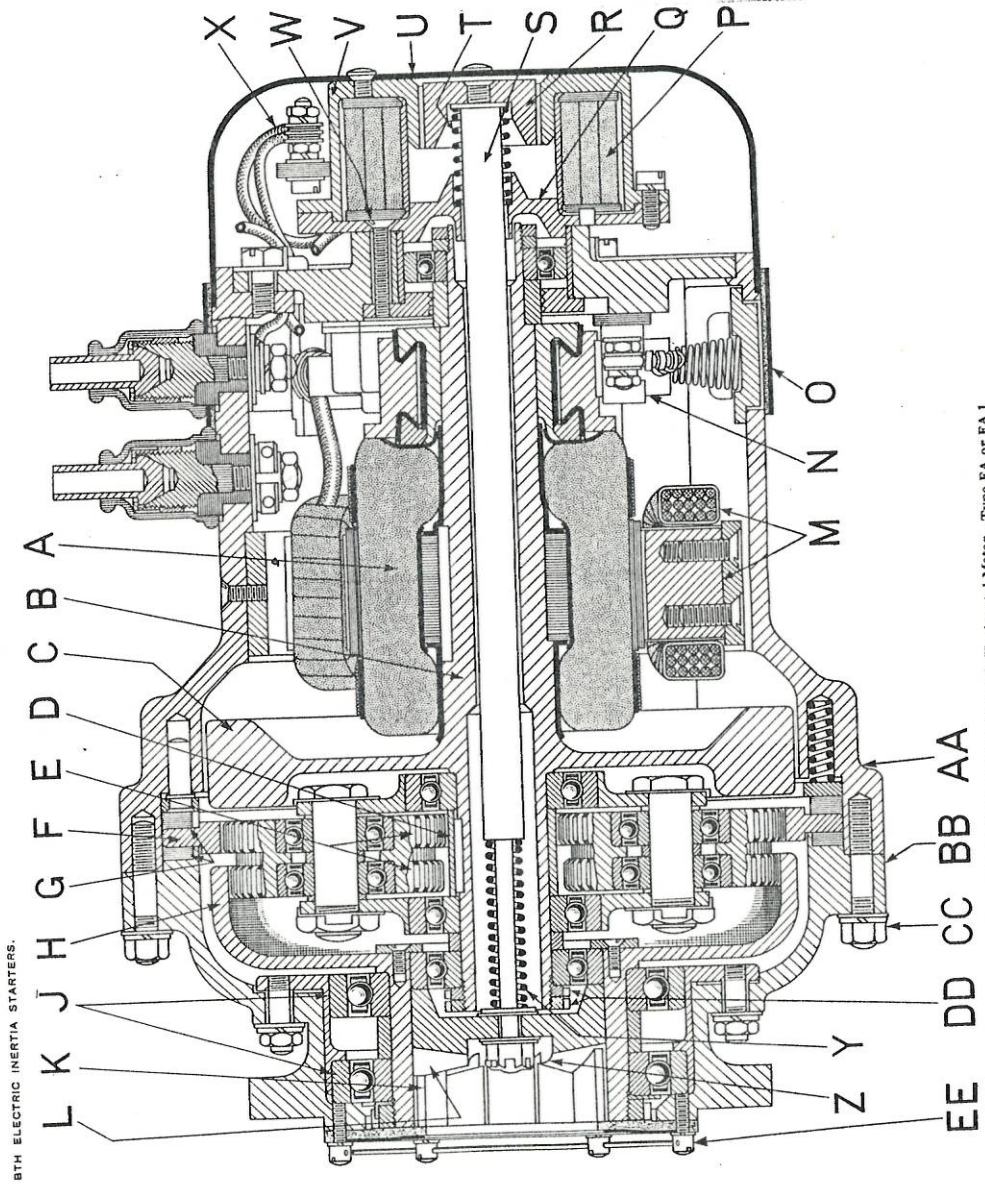

Fig. 1. Section through Electric Inertia Starter with Horizontal Motor—Type FA or FA 1
The construction of these starters is shown in Fig. 1. The armature A of the D.C. series motor is built up on a hollow shaft B which is integral with the flywheel C. Keyed to the shaft is a sun pinion D which engages with a double planetary gear
For FA and FB starters the solenoid switch knob is then pulled out, energizing the solenoid P, Fig. 1, causing the pole-piece Q to attract the plunger R. The operating rod S thus moves towards the engine, engaging the starter dog L with the engine dog. The solenoid switch should be released as soon as the engine fires.
An electric inertia starter requires no attention during service beyond occasional cleaning of the commutator by wiping with a clean cloth. The commutator is accessible after removing the cover strap O, Fig. 1.
- (1) Remove screws EE and nut Z, Fig. 1, and withdraw dog L and spring Y.
- (2) Remove cover U and solenoid leads X and take off solenoid body V.
- (3) Pole-piece Q can then be removed after taking out screws W.
- (4) Withdraw the brushes from their holders.
- (5) The starter must then be placed in a special jig, which clamps the castings AA and BB together, while nuts CC are removed. **These nuts must not be removed unless the starter is in a jig, since the total pressure of the springs, tending to part the castings, is more than a ton.**